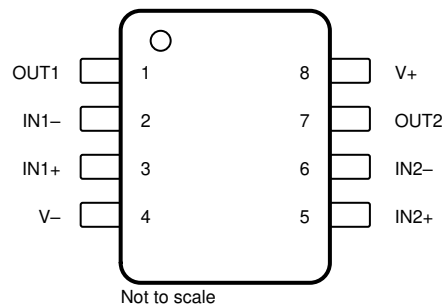

Figure 2. Pin Diagram
4.1 Figure 2 shows the pin diagram for the LM2904B-Q1. For a detailed description of the device pins please refer to the 'Pin Configuration and Functions' section in the datasheet.